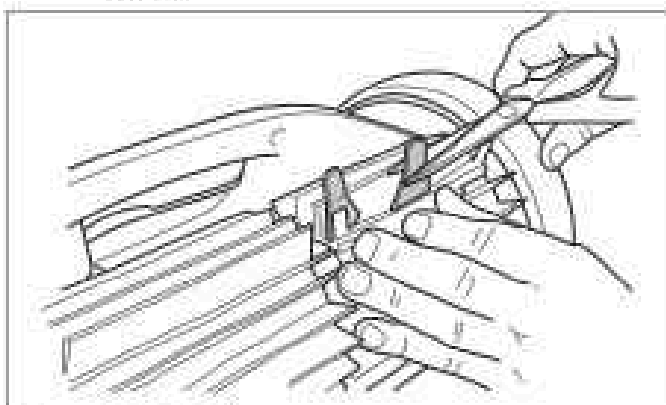

Figure 30. Cut Tabs
5. Use a pair of scissors to cut the tabs 3/4 inch from the heel so that they are no higher than the cleaning blade (Figure 30).